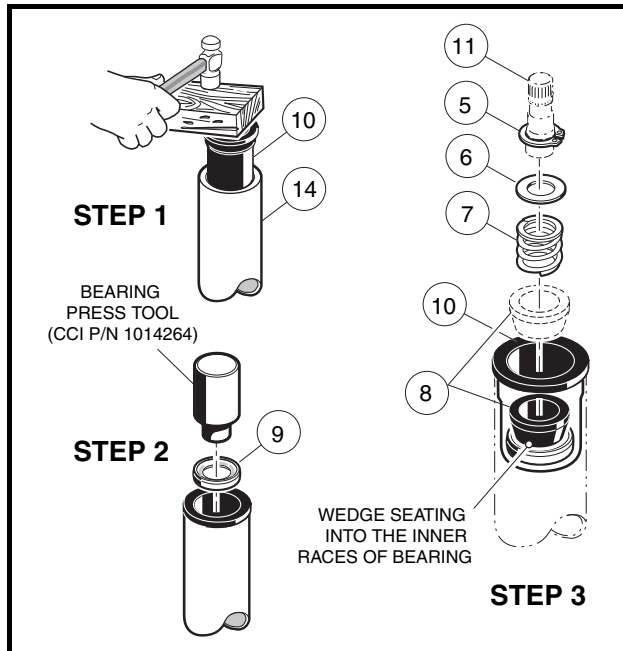
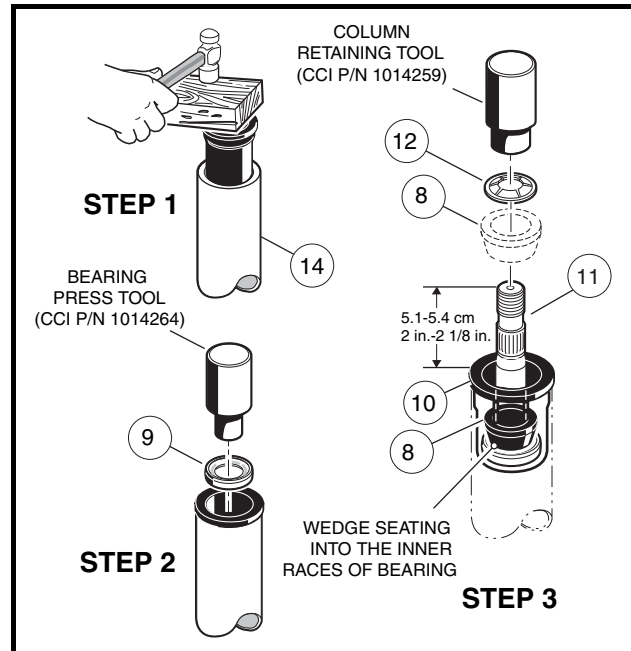

Figure 7-5 Steering Shaft–Bottom End
Figure 7-6 Steering Shaft–Top End
1. Insert bearing seat (10) into both ends of steering tube (14). Place a block of wood on bearing seat and tap lightly on block until bearing seat (10) is fully seated in steering tube (14) (**Figure 7-5, Page 7-5 and Figure 7-6, Page 7-5**).
2. Press the bearing (9) all the way into the bearing seat (10) using a steering column bearing press tool (CC P/N 1014264) or a metal tube approximately six inches (15.2 cm) long with a maximum outer diameter of 1-3/16-inches (3.3 cm) and a minimum inside diameter of 7/8-inch (2.2 cm). Be sure the bearing is installed in the bearing seat as shown (**Figure 7-5, Page 7-5**) so the wedge (8) will ride against the inner race of the bearing.
3. Install the wedge (8), spring (7), washer (6) and snap ring (5) onto the bottom end of the steering shaft (11) (**Figure 7-5, Page 7-5**).
5. Turn the assembly over and place the shaft (11) on a bench. Install the wedge (8) and retaining ring (12) onto the top of the shaft. Be sure the prongs on the retaining ring face up and away from the wedge. Use a steering column retaining ring tool (CC P/N 1014259) to seat the retaining ring to the proper depth. Support end of tube while pressing. If you do not have the recommended tool, use the same tube as was used in step 2 to press the retaining ring onto the top of the shaft. The retaining ring should be pressed onto the shaft until 2 to 2-1/8 inches (5.1-5.4 cm) of the shaft extends from the top of the bearing seat in the steering tube (**Figure 7-6, Page 7-5**).